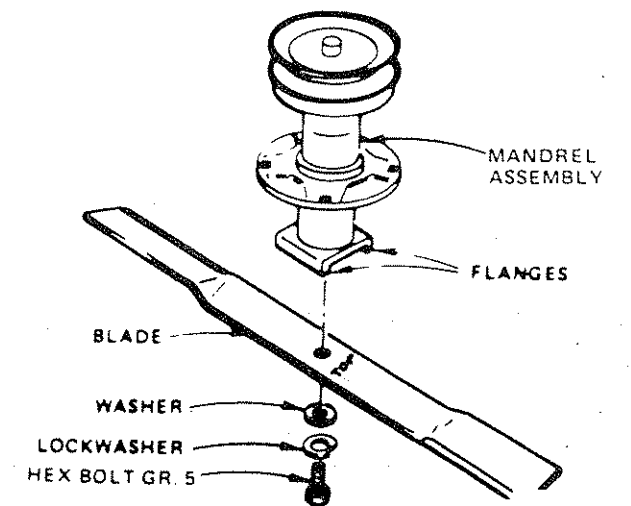

FIGURE 41
1. Remove Bolt, Lockwasher and Washer (Fig. 41) (turn counterclockwise).